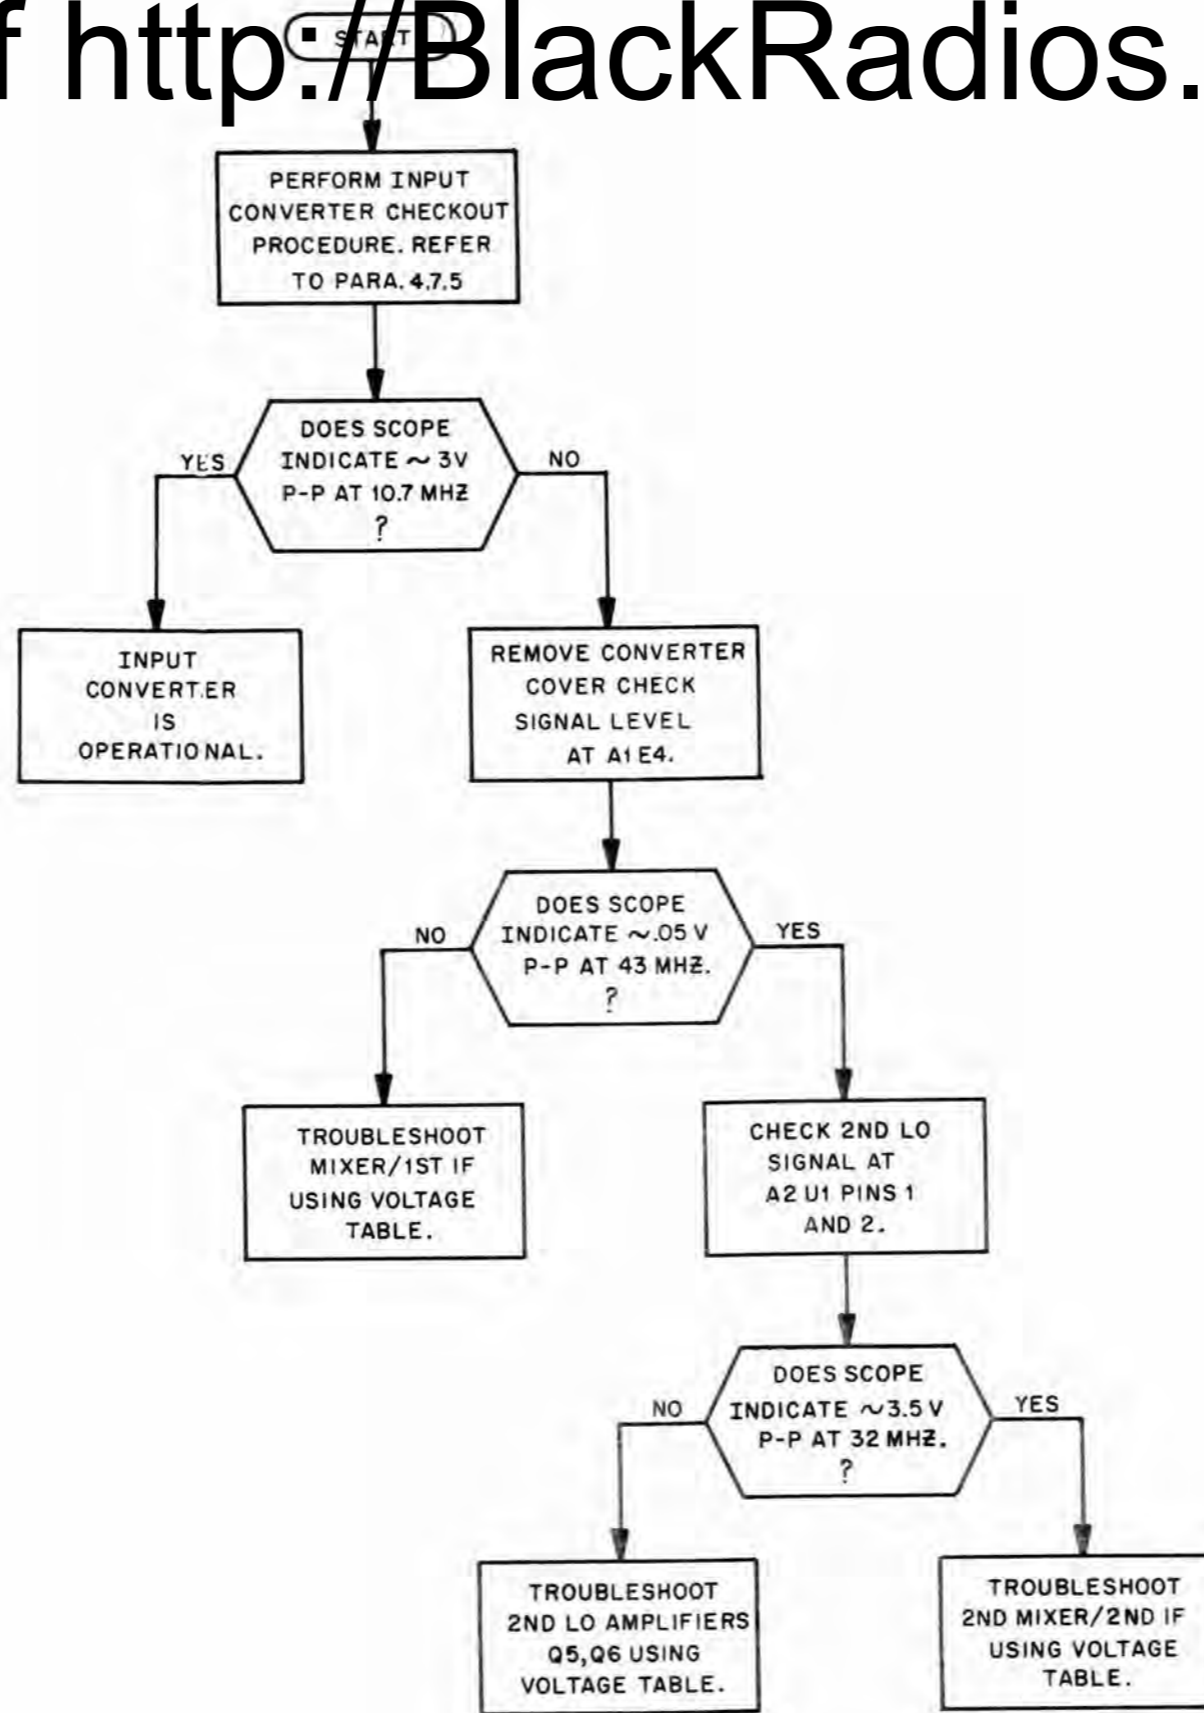

Figure 4-8. Input Converter Troubleshooting Tree
1. Figure 4-8. Input Converter Troubleshooting Tree